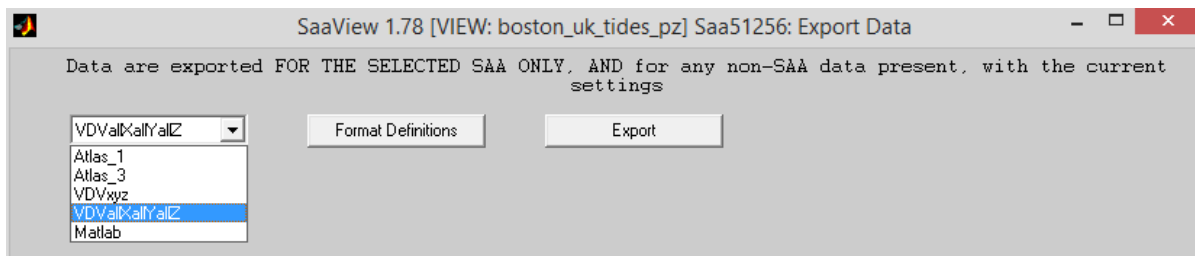

Figure 7.49: 'Export Data Settings' window.
- Takes the user to the 'Export' window, seen in **Figure 7.49**.
- By clicking either button (not Cancel) the 'Export' window will open (see **Figure 7.49**).